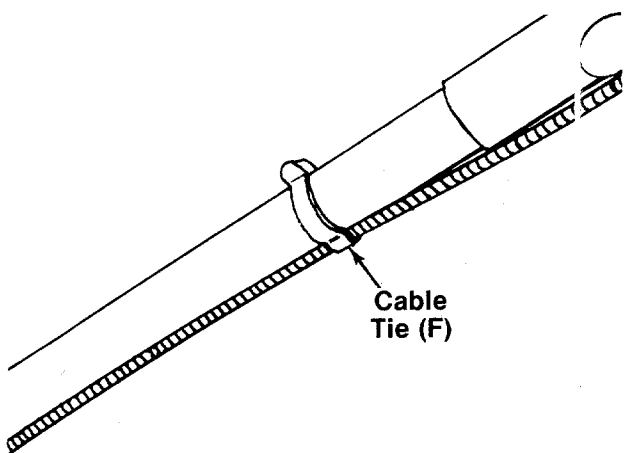

FIGURE 9.
14. Secure throttle control cable and brake cable to upper and lower handles with cable ties (F). See figure 9.
15. Insert plastic plug (G) into hole in the top rear of the deck by slipping one end of plug into hole, then pressing down on the other end of plug.